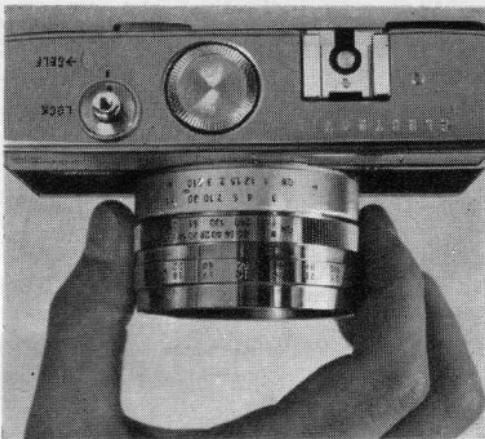

Fig. 21
- ♣ 2. Turn the AUTO & FLASH SET RING and set the corresponding guide number figure of the flash bulb used. (Fig. 21) In setting the guide number, keep the DISTANCE SCALE RING set at "infinity". Set the guide always at click stop position.